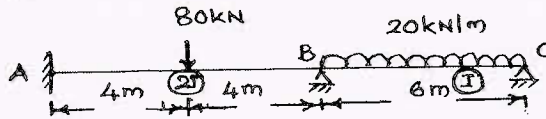

Fig.Q1
- 1 Analyse the beam completely by slope deflection method relative to support A support B sinks by 1mm and support C rises by 0.5 mm. Take $EI = 30000 \text{ kN-m}^2$. Refer Fig.Q1. Draw BMD, SFD and Elastic curve.